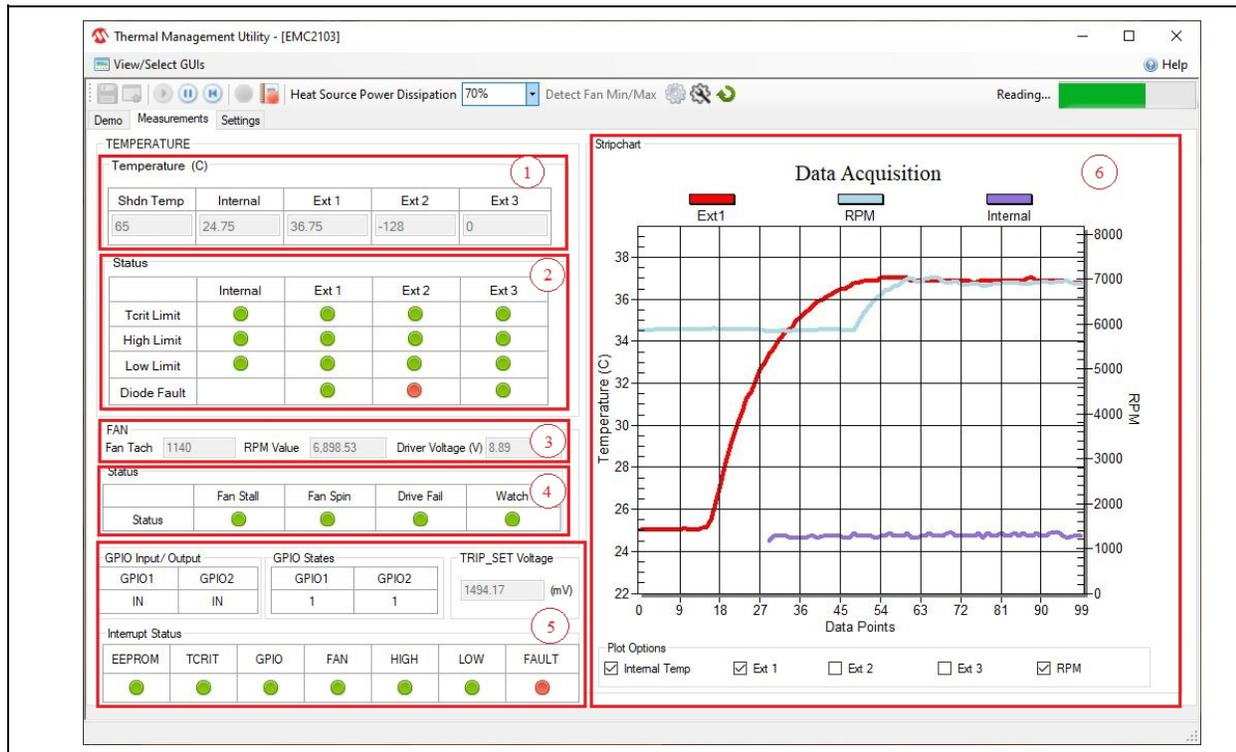

FIGURE 3-14: Temperature Sensor View – Measurements Tab.
- The temperature values are presented in both the Temperature table (marked in Figure 3-14 with (1) and in the Data Acquisition chart (6). The chart can be configured to display any combination of the device channels by enabling the corresponding channel checkbox from the Plot Options section.
- The temperature channels' status is displayed in the Status section (marked in Figure 3-14 with (2), where a green icon represents normal operation and a red icon signals that the limit or the Fault condition named on the row title has been reached.
- The fan values are displayed in the Fan section (3) and the RPM value can also be presented in the Data Acquisition chart. The fan driver output voltage is measured using the MCP2221A ADC and calculated using the following formula: $(\text{first channel for ADC}) * 2(\text{mV per bit}) / 1000 * 11(\text{voltage divider})$
- The device's status is displayed in the Status section (4), where a green icon represents normal operation (limit not exceeded, no Fault condition) and a red icon signals that a limit has been reached or a Fault condition has been detected.
- The GPIO and Interrupt states are monitored in the section marked by (5) in Figure 3-14. The GPIO Input/Output section monitors the pin direction of each GPIO pin. The GPIO States section indicates the state of the corresponding GPIO pin. The Interrupt Status reports the operating condition of the device. The TRIP_SET Voltage register value is displayed. This value is proportional to the TRIP_SET Resistor value.